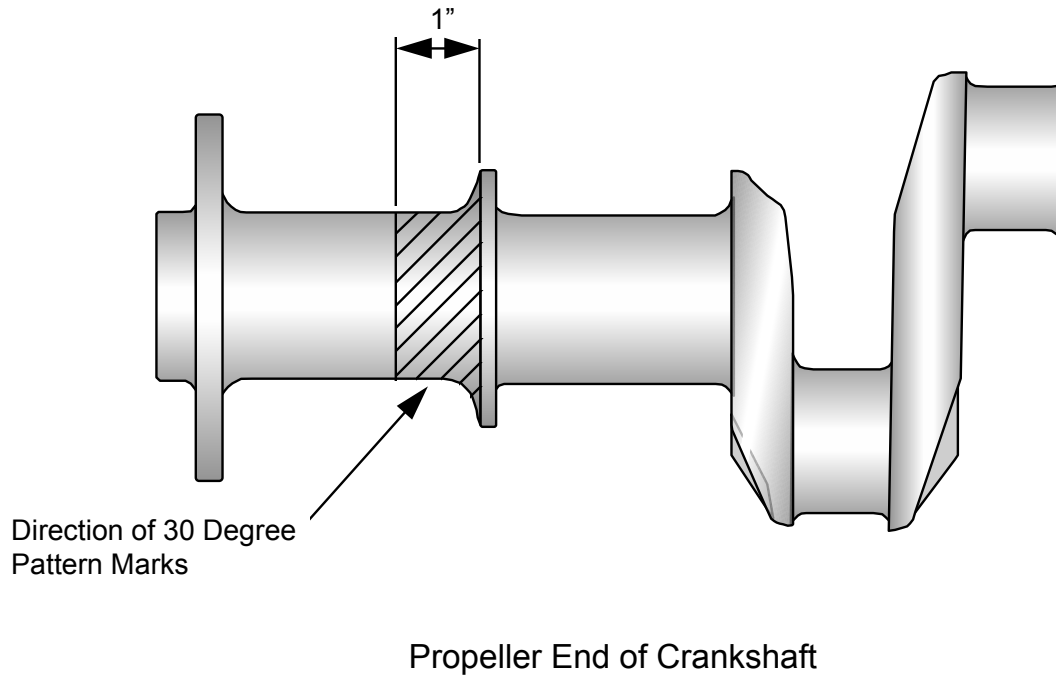

Figure 21-6
3. Remove any plating in the one inch area shown in Figure 21-6, "Helix Pattern Application." Remove plating by working a piece of very fine emery cloth back and forth around the shaft. This should blend the finish uniformly without leaving any lines (scratches).
1. See Figure 21-6, “Helix Pattern Application.” Apply helix using a strip of 180 grit emery cloth approximately one half inch wide. Do approximately one quarter of the surface indicated at a time, stroking the cloth outward toward the propeller flange in the direction of rotation (CCW) towards you using maximum hand pressure. Reverse direction for left hand rotating engines. This should result in a 30° pattern similar to that illustrated in Figure 21-6, “Helix Pattern Application.” After doing the first portion rotate crankshaft by hand to make next portion available. Apply the same pattern again and continue completely around the crankshaft in this manner.